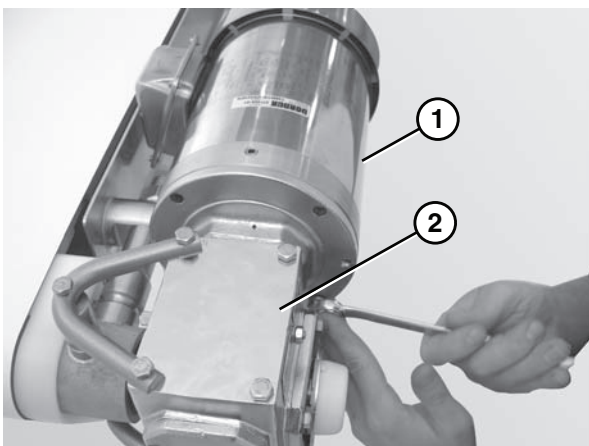

Figure 8
5. Attach the motor (Figure 8, item 1) to the gear reducer (Figure 8, item 2).